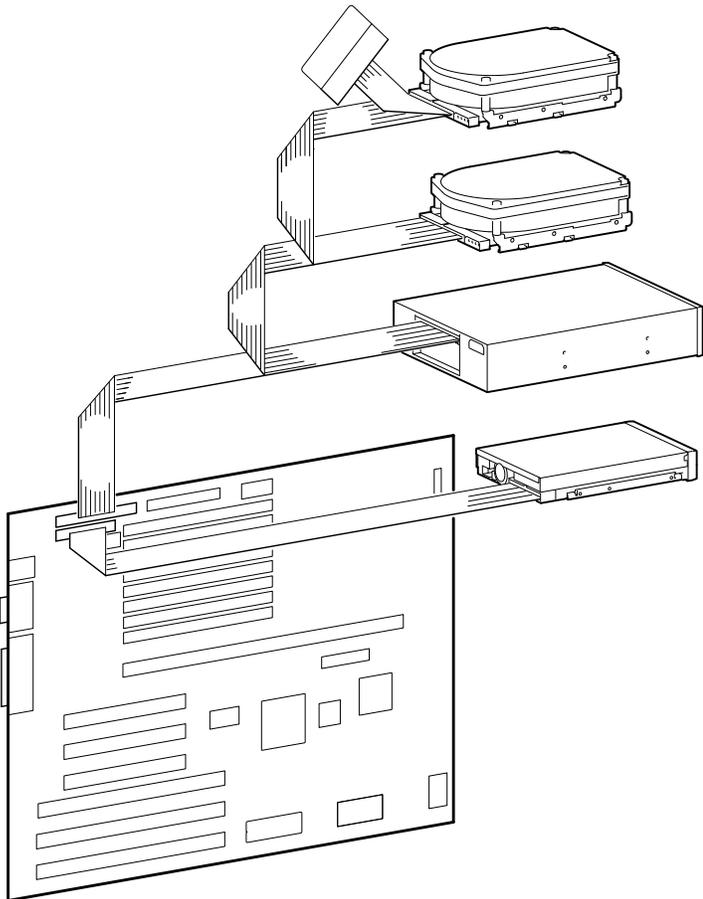

Figure 4-12. Sample SCSI and FDC Cable Configuration
8. Connect the SCSI cable to the device. Figure 4-12 shows a sample cabling configuration using one floppy diskette drive and three SCSI drives. SCSI tape drives connect to the SCSI cable and FDC tape drives connect to the FDC cable (the same cable used by the floppy diskette drive). Ensure that the cable is oriented correctly. All cables and most connectors are keyed so that you cannot connect them incorrectly. If your drive is not keyed, you must connect pin 1 of the cable to pin 1 of the socket. Pin 1 of the cable is on the edge with the colored stripe or pattern. Pin 1 of the socket is marked with either a tiny number "1" at one end of the socket or with a tiny number "1" or "2" printed on the circuit board near one end of the socket.